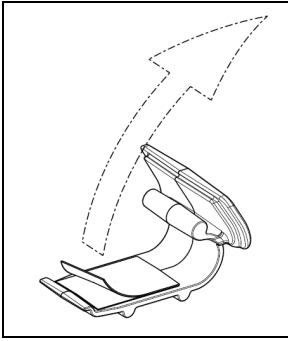

Fig. 4
- Remove the protective film from the adhesive on the Ferma-flex clip (Fig. 4)